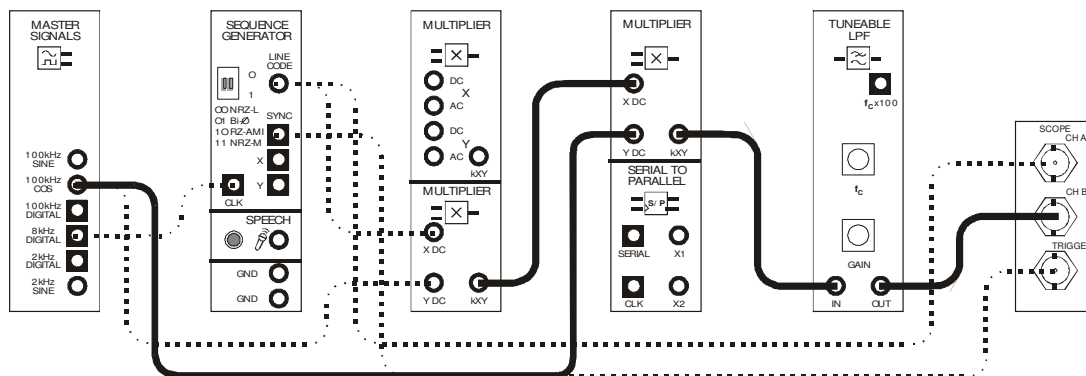

Figure 5
22. Modify the set-up as shown in Figure 5 below.